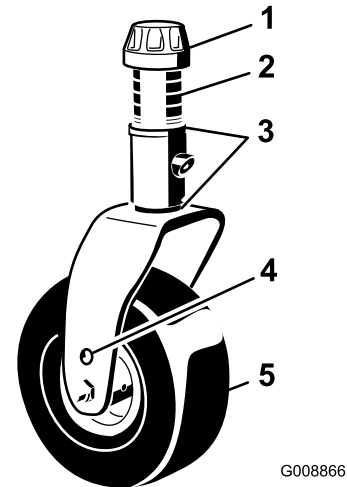
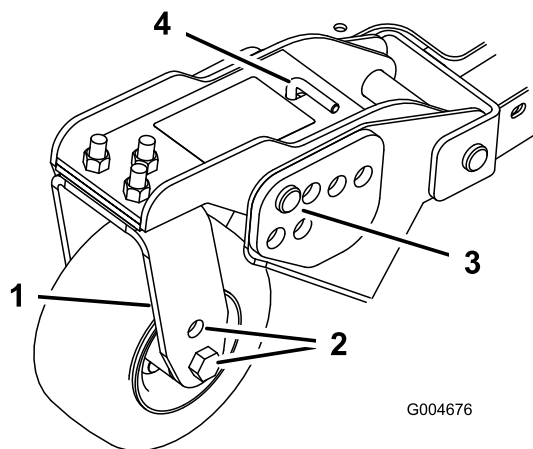
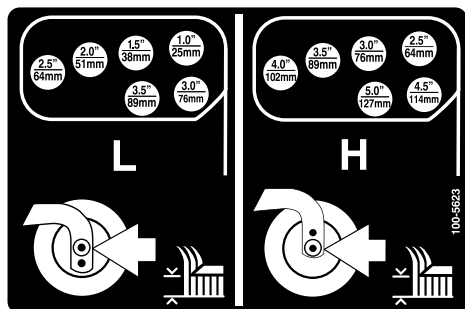

Figure 18
Figure 20
Figure 21
1. Position the caster-wheel axles in the same holes in all of the caster forks (Figure 18 and Figure 20).
2. Remove the tensioning cap from the spindle shaft and slide the spindle out of the caster arm (Figure 18).
6. Remove the hairpin cotter and clevis pins from the caster-pivot arms (Figure 20).
7. Rotate the tension rod to raise or lower the pivot arm until the holes are aligned with the selected height-of-cut bracket holes in the mower-deck frame (Figure 20 and Figure 21).